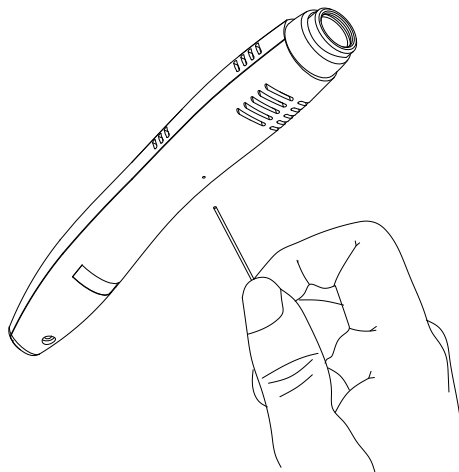

Figure 9
7. Whenever press the on/off button or mode button on keypad, there is no response in timer display, nor light.	The light program is crashing. ► Poke clip included with the package through the hole on the back of handpiece to reset the light program. (Please refer to Chapter 9, figure 9)